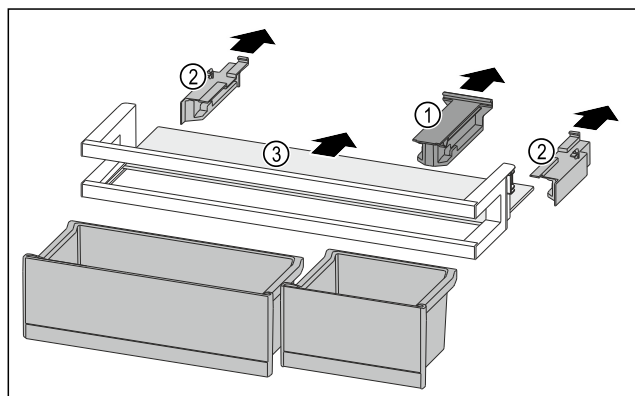

Fig. 222
- ▶ Pull off the holding part Fig. 222 (1).
- ▶ Pull off the side parts Fig. 222 (2).
- ▶ Remove the shelf Fig. 222 (3).